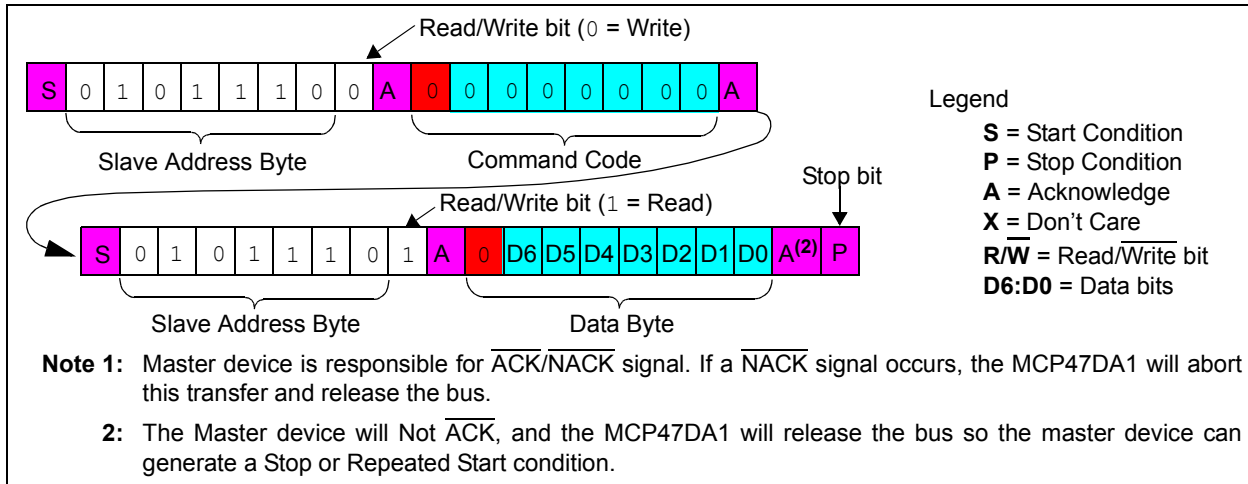

FIGURE 5-14: I²C Read Command Format.
The command is terminated once a Stop (P) or Restart (S) condition occurs. Refer to Figure 5-14 for the read command sequence. For a single read, the master sends a Stop or Restart condition after the first data byte (and $\overline{A}$ bit) is sent from the slave.